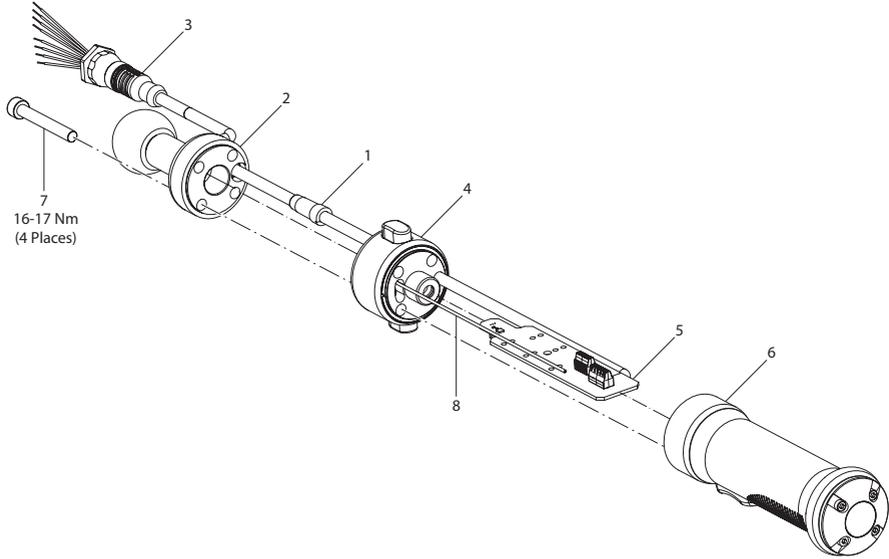

Figure 13
- Fastener Bolt (8) should be used to arrest PCB Assembly inside handle Grip housing after assembly described in **Handle Wiring from Small Board to Main Board** (Figure 13).